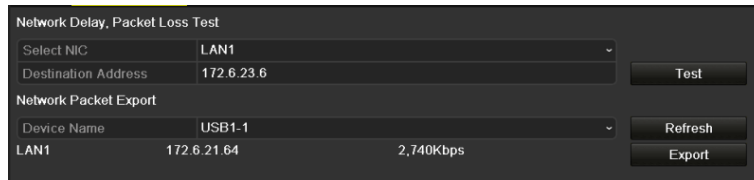

Figure 11-26 Export Network Packet
Step 3 Select the backup device from the dropdown list of Device Name, as shown in Figure 11-26.